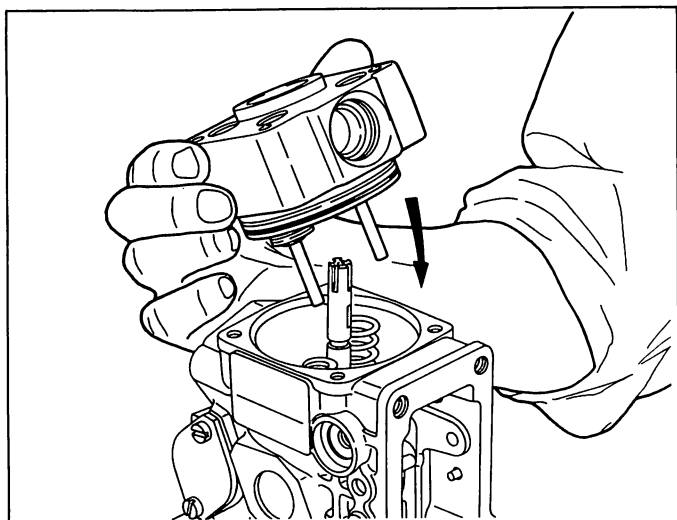

Fig. 64 Installing the distributor head
4. As shown in Fig. 64, carefully insert the distributor head fitted with the guide pins (49), shims (48) and spring seats (47) into the pump housing (taking care that it is correctly aligned with the plunger)
5. Fix the distributor head with the screws (60).
**Note:** Do not coat the shim (52) with grease.